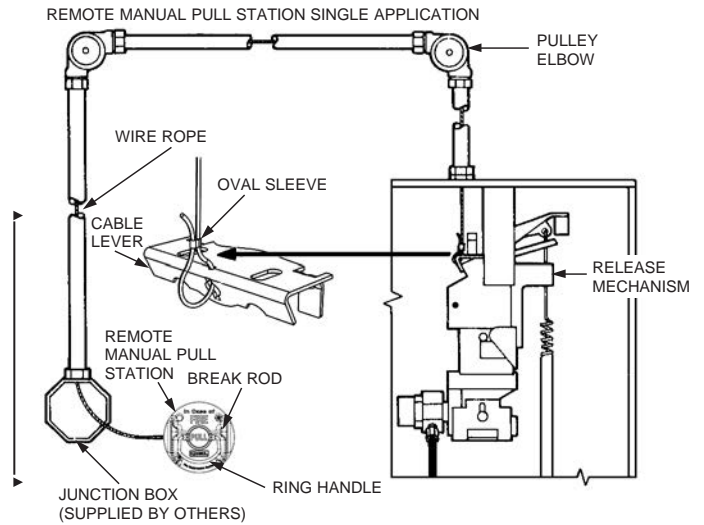
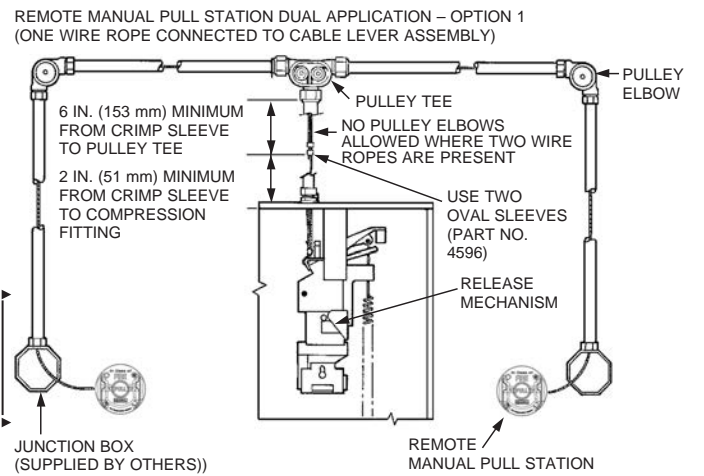

FIGURE 5-37
FIGURE 5-38
- 3. Install and secure 1/2 in. conduit, pulley tee (if required), and pulley elbows from each pull station junction box to regulated release assembly as necessary. See Figure 5-37. See Figures 5-38 thru 5-40 for optional methods of installing wire rope when utilizing a pulley tee.
6. Slide oval crimp sleeve onto wire rope. Loop wire rope through cable lever guide holes and back through the oval crimp sleeve. See Figure 5-37.
7. Pull slack out of each wire rope and crimp sleeve. (Use the National Telephone Supply Company Nicopress Sleeve Tool Stock No. 51-C-887 or equal to properly crimp stop sleeve.) See Figure 5-37.